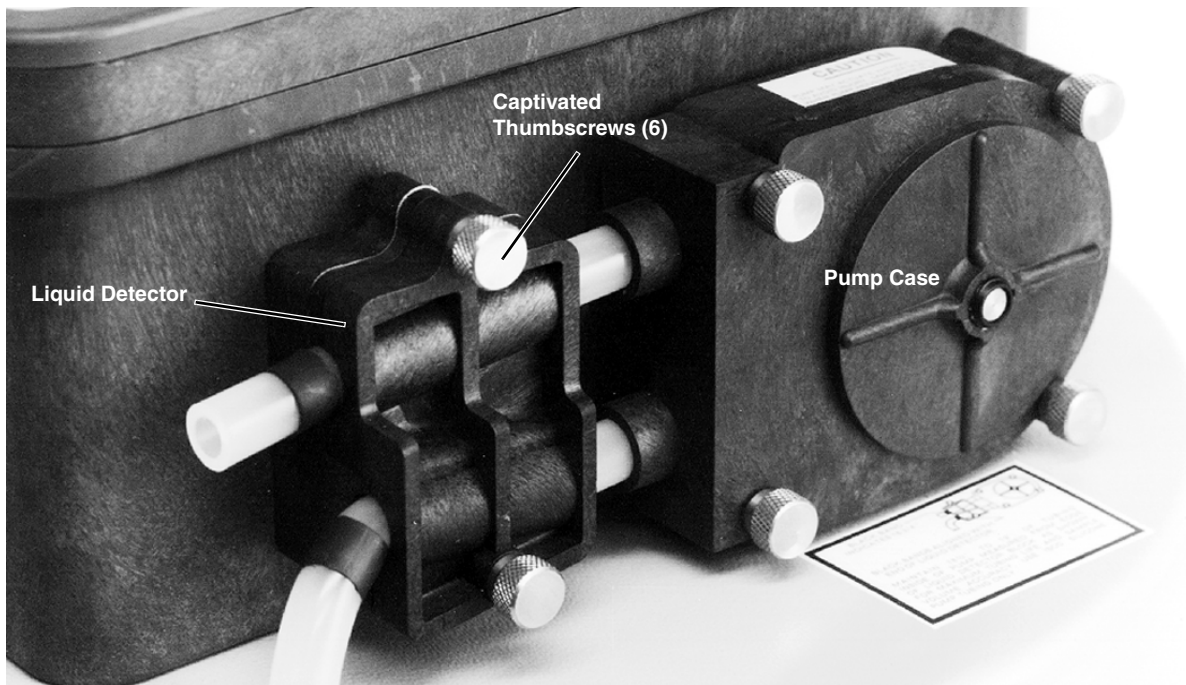
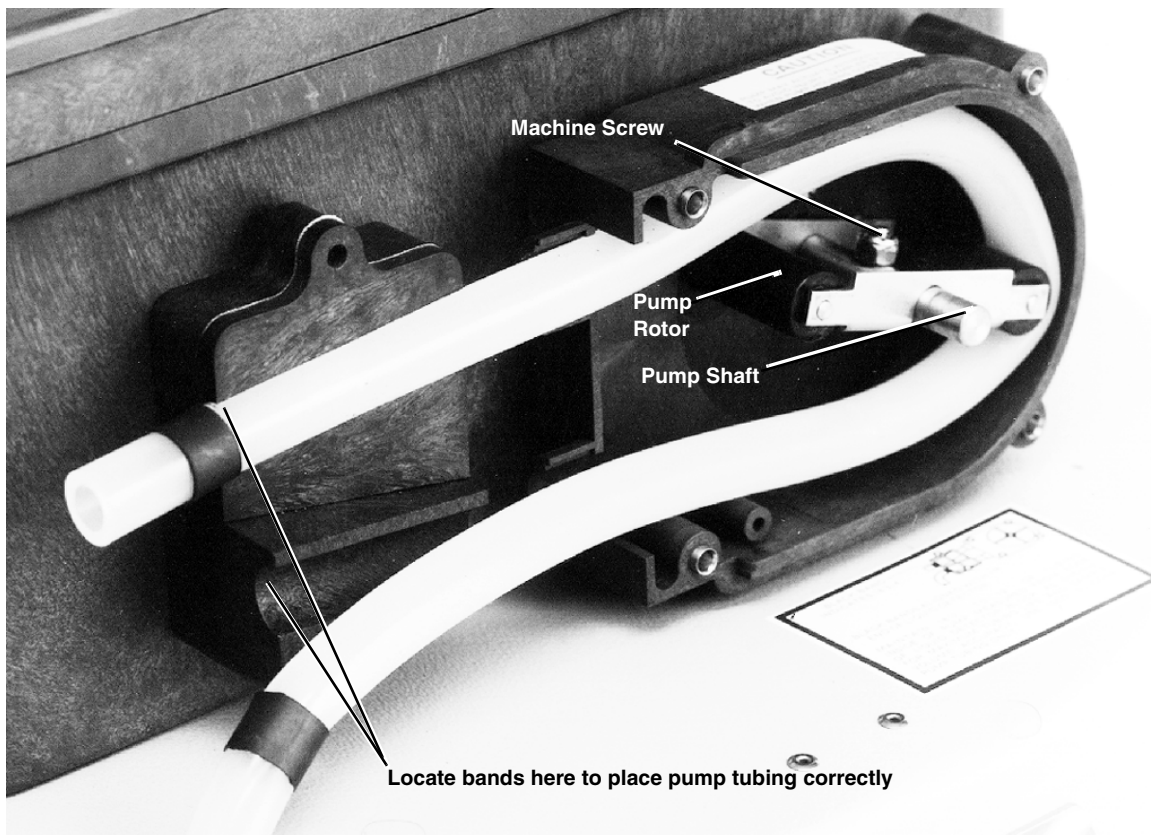

Figure 5-1 Liquid Detector and Pump Case
Figure 5-2 Interior of Liquid Detector and Pump Tube
2. Detach the outer cases of the liquid detector and pump by loosening the captivated thumbscrews shown in Figure 5-1. This will expose the pump tubing as shown in Figure 5-2.
Place the inner band at the lower outlet of the liquid detector. Figure 5-2 shows the correct placement of the tubing at the liquid detector.